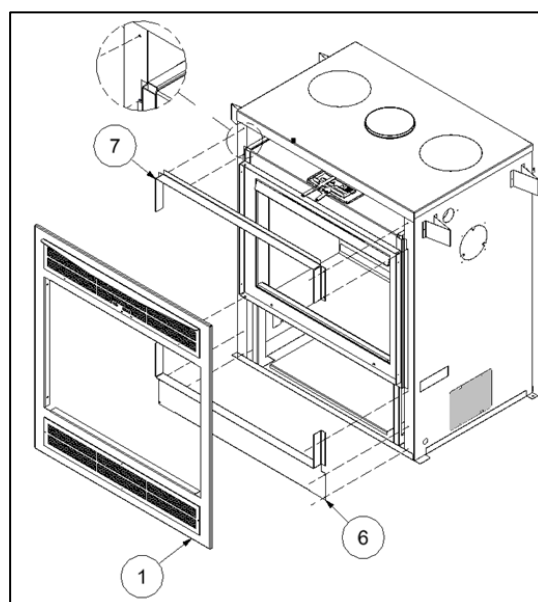

Figure 3-13: Traditional Surround Installation
The traditional surround comprises louvers below (intake) and above (outtake) the door. All components and fasteners are included in the surround kit. Refer to Figures 3-13 and 3-14 and Tables 3-2 and 3-3 for the instructions below.
2. Align the lower support bracket (Item 6) to the intake opening and fasten it in place (Figure 3-13).
3. Bend the ends of the upper support bracket (Item 7), align it to the outtake opening and fasten it in place (Figure 3-13).